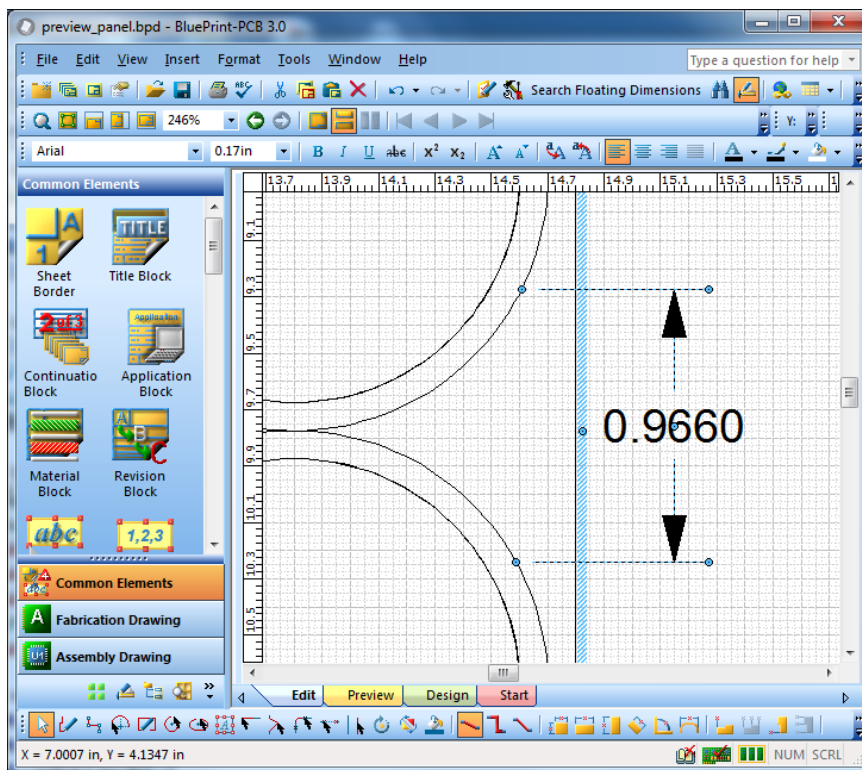
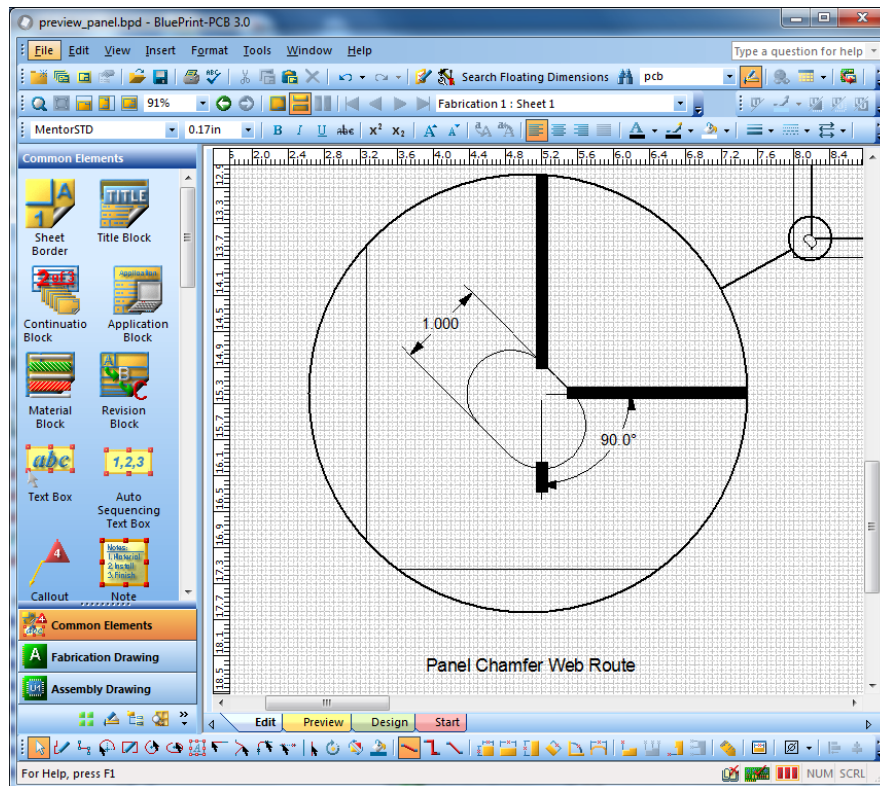

Figure 1. Dimensioning snapped to arcs along a merged web route.
Figure 2. Exploded view dimensioning of Panel Drawing Elements.
The Panel Dimensioning updates improve dimensioning for Panel Drawings in BluePrint-PCB in two (2) ways. First, dimensioning for web routes has been improved to snap to all points along a merged web route pattern. The dimensioning is associative. As the web route pattern is updated by the user, pre-existing dimensions I snap to the closest web route pattern compared to the pre-existing web route dimension point. See Figure 1 for an example. Secondly, dimensioning in exploded views has been improved to include Panel Drawing elements. This will permit users to dimension all panel drawing elements in exploded views to scale. Users can snap to panel drawing elements in exploded views to measure distances precisely. See Figure 2 for an example.